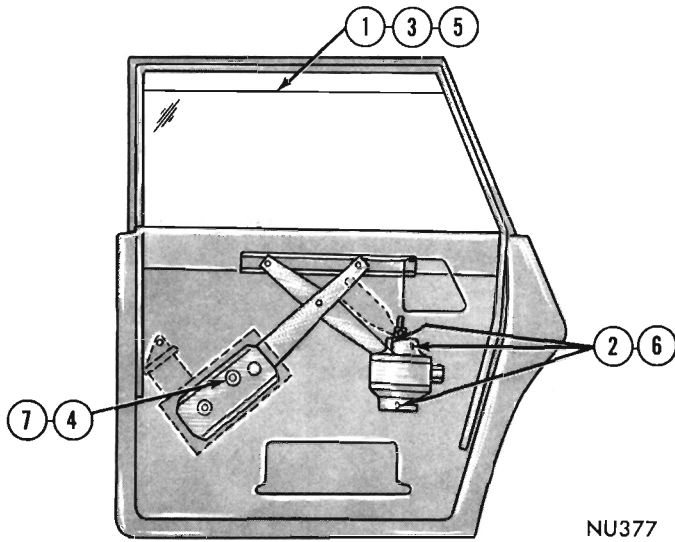

Fig. 19 - Sedan Rear Door Glass Adjustments
**Adjustments-Sedan (Fig. 19)**
- (1) Raise window to approximately 1/8 inch below door frame.
- (2) Adjust regulator pivot bracket so gap between top of glass and door frame is constant. Snug tighten attaching nuts.
- (3) Lower glass until top edge is even with or slightly below outer panel belt weatherstrip.
- (4) Position stop on regulator plate against sector stop and snug tighten nut.
- (5) Test operation and inspect alignment of glass. Tighten callouts 6 and 7 securely.